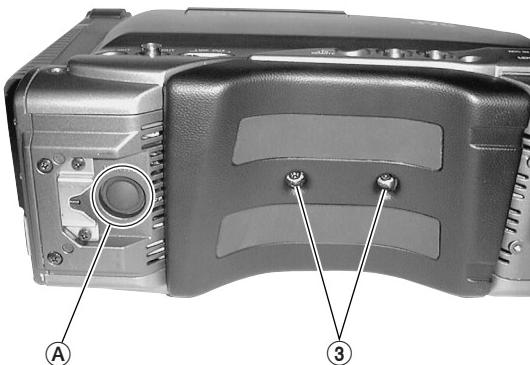

Fig. 1-1 Position of the Circuit Breaker
- (1) Remove the left side cover (see section 1.2.1).
- (2) Remove the 2 screws **③** and remove the shoulder pads (see Fig. 1-1).
- (3) Remove the 4 screws **④** and remove the bottom cover.